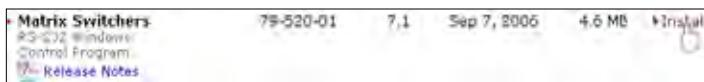

Figure 32. Software Installation
3. Scroll to the desired program and click **Install** (see figure 32).